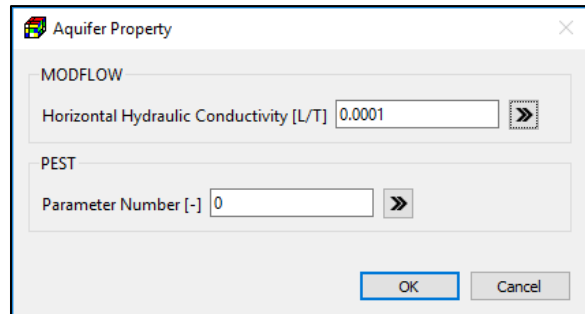

Figure 14. The Aquifer Parameter dialog box
- Most dialog boxes for the polyline data entry contain **»** buttons next to the data entry fields. Figure 14, for example, shows the Aquifer Parameter dialog box with the **»** buttons. You may click the **»** button next to a parameter to apply its vertex data to the cells along the polyline. For packages⁸ that support multiple instances of package-specific features in a cell, such as the Well Package, the **»** buttons only act on existing instances.